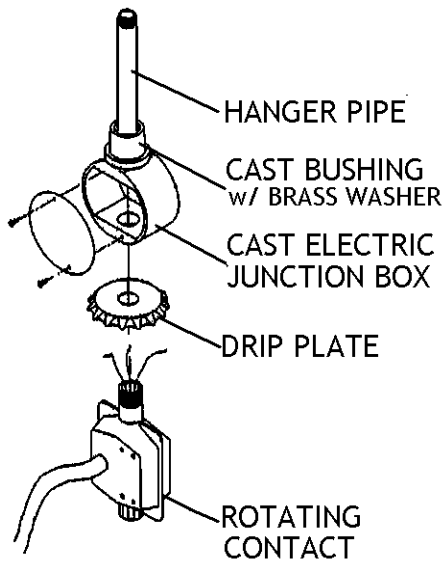

Fig. 33 – Rotating contact installation
- 84 After machine is raised in bin, place drip plate over threaded end of rotating contact so plate opens downward. See Fig. 33.
- 85 Tightly thread rotating contact into bottom of cast electric junction box on center hanger. See Fig. 33.